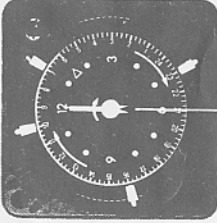

fig 2 Clock Adjuster
Setting Correct Time and required On-Off periods — refer fig 2.
- Position tappets in outer dial as shown. **Red** tappets switch **On**, **blue** tappets switch **Off**. For example, if you want to switch on between 7 and 10 am and then between 4pm (16.00 on 24 hour dial) and 11pm (23 on dial), tappets are positioned as shown in fig 2.